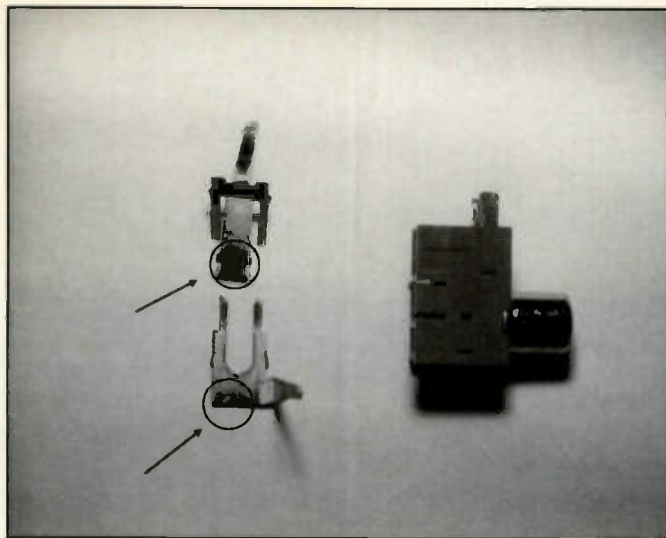

Figure 2. Oxidized input jacks can result in loss of audio or video signals when making recordings.
- Video input connector (see Figure 2)
- Audio input connector (Figure 2)